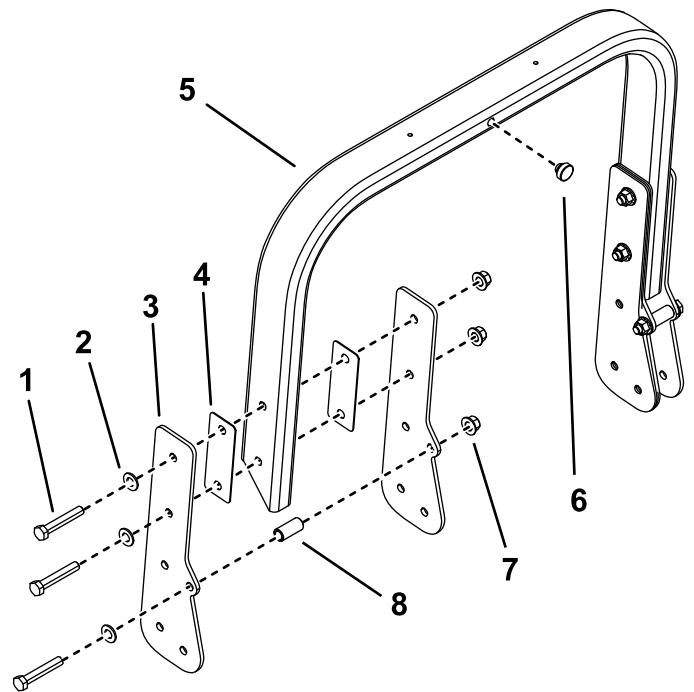

Figure 10
1. Install 2 side plates to both sides of the roll bar using 3 bolts (1/2 x 3 inches), 2 flat spacers, 3 washers, 1 cylindrical spacer, and 3 locknuts (1/2 inch) on each side (Figure 10).
2. Install a bumper in the center of the roll bar (Figure 10).